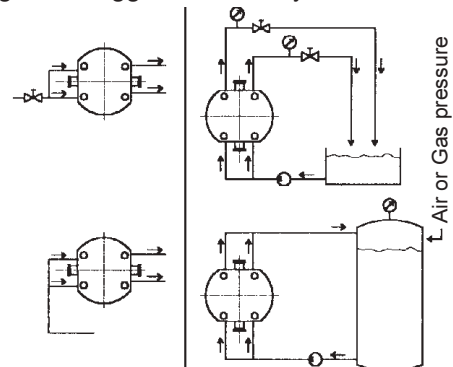

Fig 2
- See Fig 2 for suggested flush system